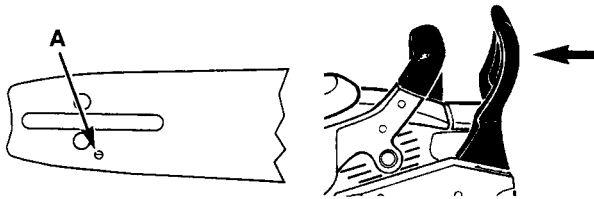

Fig. 21
CAUTION: To ensure the bar and chain receive oil, **ONLY** USE THE ORIGINAL STYLE BAR with the oil passage hole (A) as illustrated in Fig. 21.
1. Make sure the Chain Brake® lever is pulled back into the DISENGAGED position (Fig. 21).